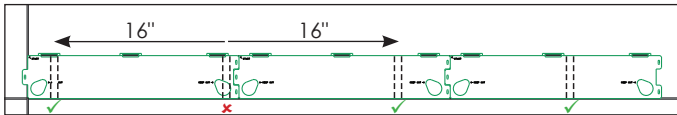

Figure 5: Move Studs at Interference Locations
4. Mark new tube mounting locations at 16" increments on both sides of the stud if a stud location directly overlaps with a KEEP OUT slot. Refer to **Figure 5**.